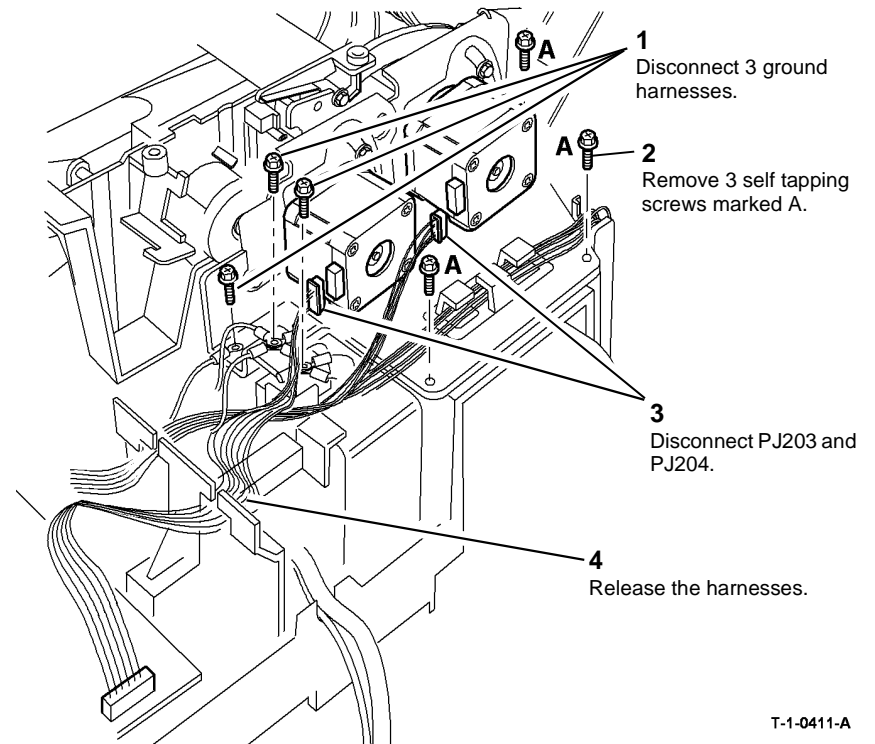

Figure 1 Drives assembly
- Prepare to remove the drive assembly, Figure 1.